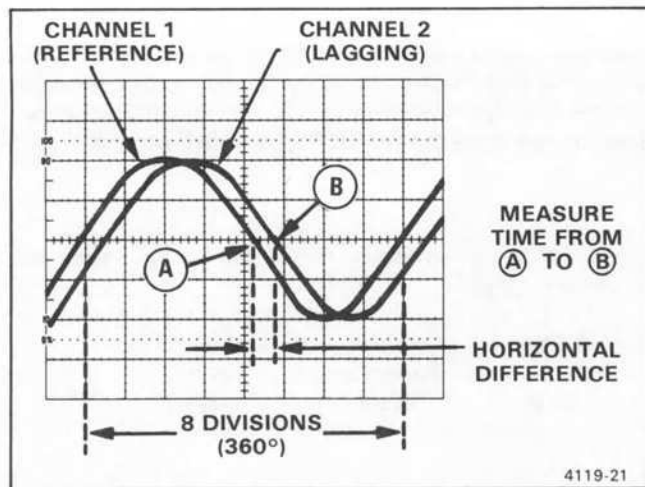
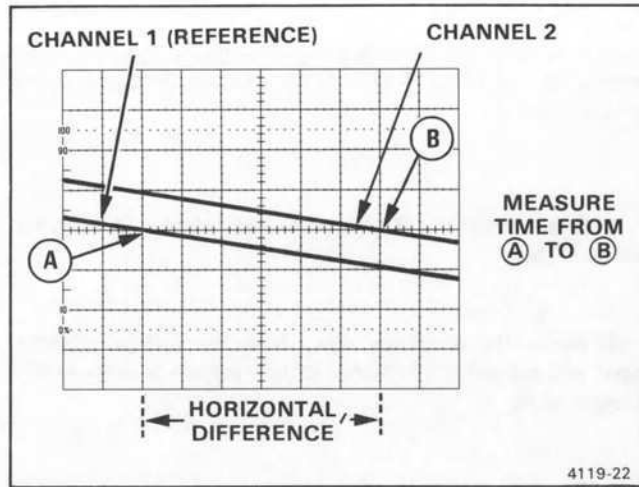

Figure 20. Phase difference.
Figure 21. High-resolution phase difference.
9. Position the displays and adjust the TIME (PULL) VAR control so that one reference-signal cycle occupies exactly 8 horizontal graticule divisions at the 50% rise-time points (see Figure 20). Each division of the graticule now represents  $45^\circ$  of the cycle ( $360^\circ \div 8$  divisions), and the horizontal graticule calibration can be stated as  $45^\circ$  per division.
**EXAMPLE:** The horizontal difference is 0.6 division with a graticule calibration of  $45^\circ$  per division as shown in Figure 20.
Figure 21 shows the same signals illustrated in Figure 20, but magnifying the displays results in a horizontal difference of 6 divisions between the two signals.